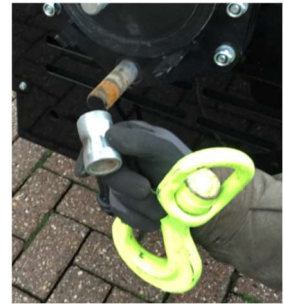

Figure 54
- Position the lifting hook and the winch cable, fit the removable half of the winch weight back in place and secure it in place (see figure 54).